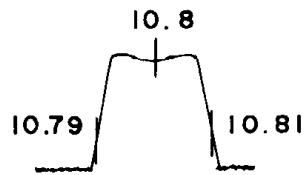

Figure 2
4. Detune T6 for maximum 1F output display. See Fig. 2.